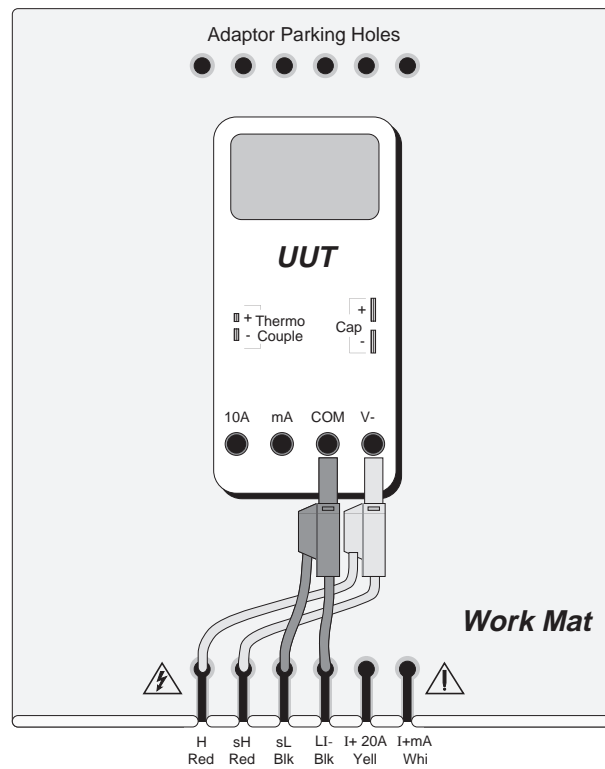

Fig. 16.1 Connections for Logic Pulses Calibration
1. Connections Connect the 9100 to the UUT as shown in Fig. 16.1 , and ensure that both instruments are powered ON and warmed up.
16.2.2 Sequence of Operations Refer to the table of UUT calibration points in the Manufacturer's Calibration Guide for the UUT. Follow the sequence of calibration stages as directed by the guide, and carry out the following operations (1) to (5) at each stage.
Connect the 9100 to the UUT as shown in Fig. 16.1, and ensure that both instruments are powered ON and warmed up.